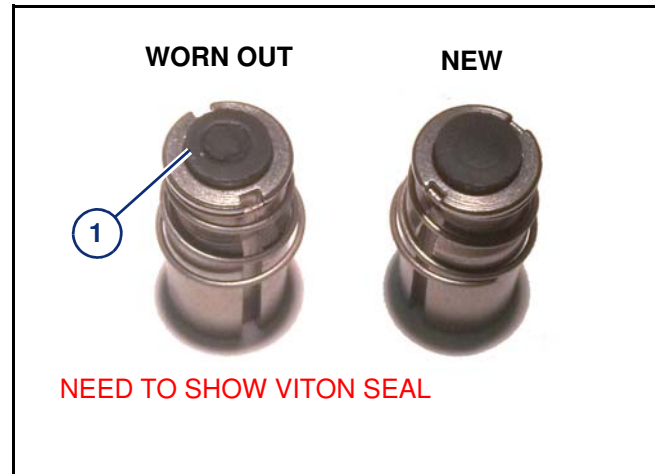

Figure 24
2. **[Figure 24]** - Remove the coil (1) by rotating the coil counter clockwise from the valve body (2).
3. Remove the plunger (3) and O-ring (4) from the coil.
5. Inspect the O-rings (5) and (6).
6. Inspect the valve body and make sure the orifice (7) is not plugged with debris, worn or damaged. If the orifice is worn or damaged, replace the valve body.
**[Figure 24]** - After extended use, the Teflon plunger seal will wear a groove (1) where the seal impacts the hard orifice seat. Replace plunger if worn or damaged.